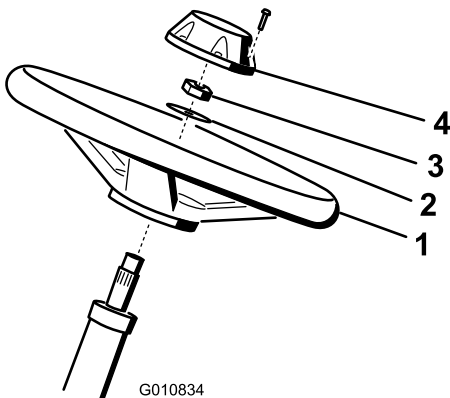

Figure 5
1. Slide the steering wheel onto the steering shaft (Figure 5).
2. Slide the washer onto the steering shaft (Figure 5).
3. Secure the steering wheel to the shaft with a Locknut and tighten it to 27 to 35 N-m (20 to 26 ft-lb) (Figure 5).
4. Install the cap to the steering wheel and secure it with 6 bolts (Figure 5).